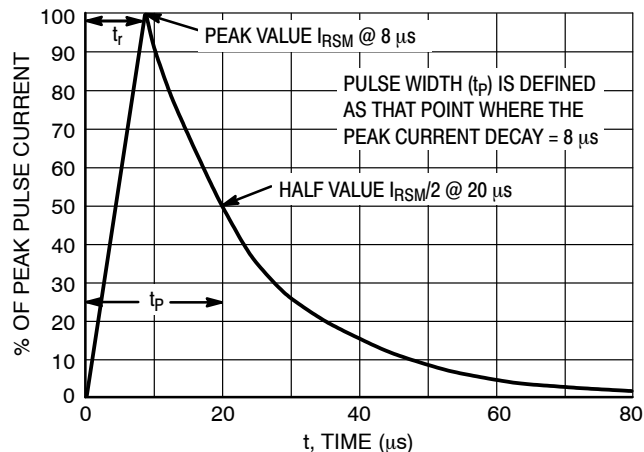

Figure 5. 8 x 20 μ s Pulse Waveform
1. Non-repetitive current pulse per Figure 5 (Pin 5 to Pin 2)
4. Non-repetitive current pulse per Figure 5 (Pin 5 to Pin 2)
5. Surge current waveform per Figure 5.